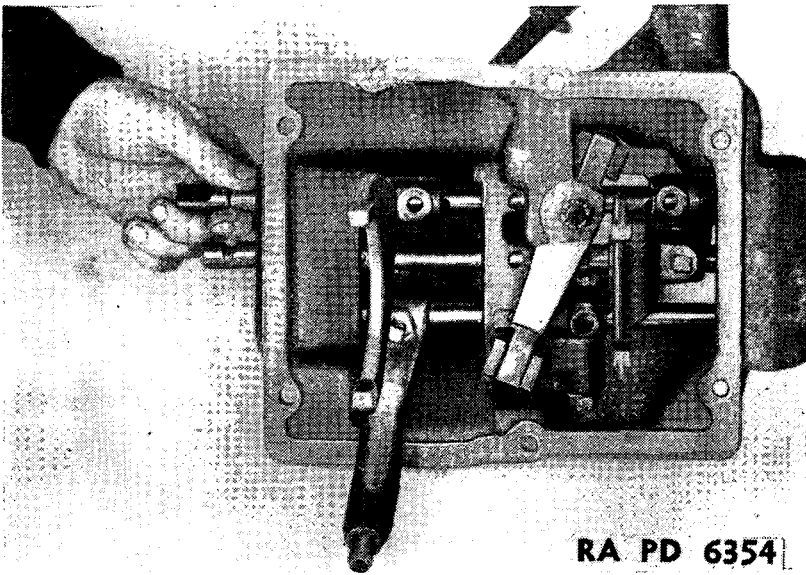

FIGURE 91.—Transmission reverse shift rod removal.
(10) Remove first and reverse speed relay lever— $\frac{5}{8}$ -inch box wrench,  $\frac{7}{8}$ -inch open end wrench, pliers. Remove cotter pin (BFAX1DF), nut (A214814), and screw (A214811), and remove relay lever (B184261) (fig. 91).